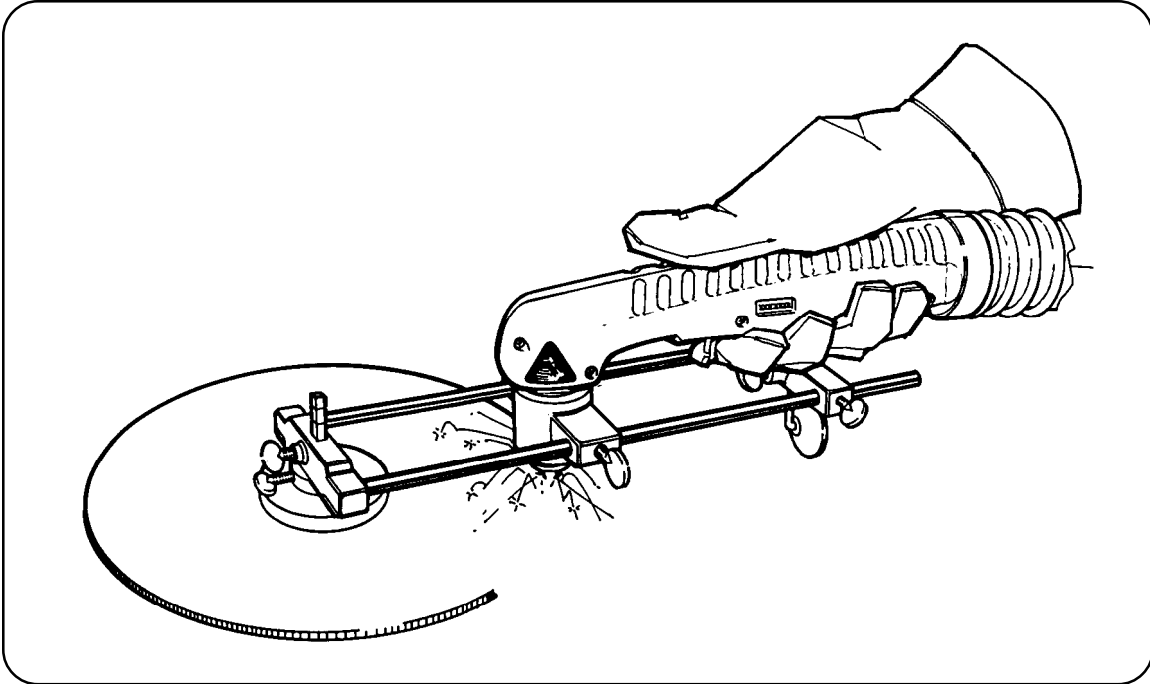

Figure 4-7 Cutting a Circle
- To cut circles, use a template or a radius cutter attachment (Fig. 4-7).